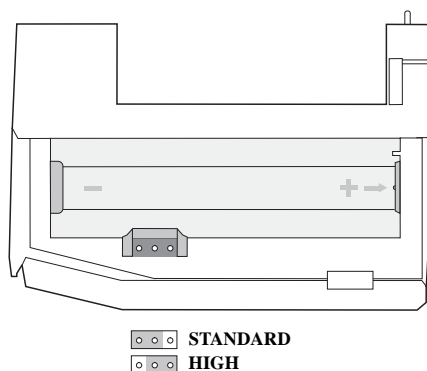

Figure 7. Sensitivity Pins Locations
3. To change to high sensitivity, move the shorting jumper to the pair of pins that are closer to the top of the PIR (see Figure 7).